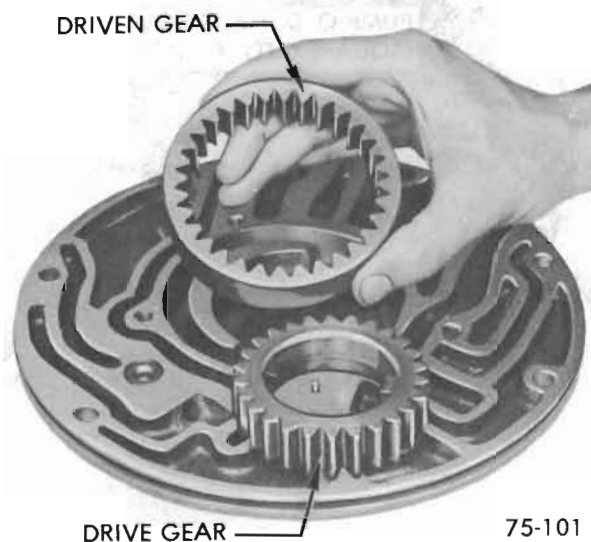

Figure 75-137
6. Remove pump drive gear and driven gear from pump body. See Figure 75-137.
**NOTE:** Drive gear has off-set tangs, assemble with tang face up to prevent damage to converter. See Figure 75-137.